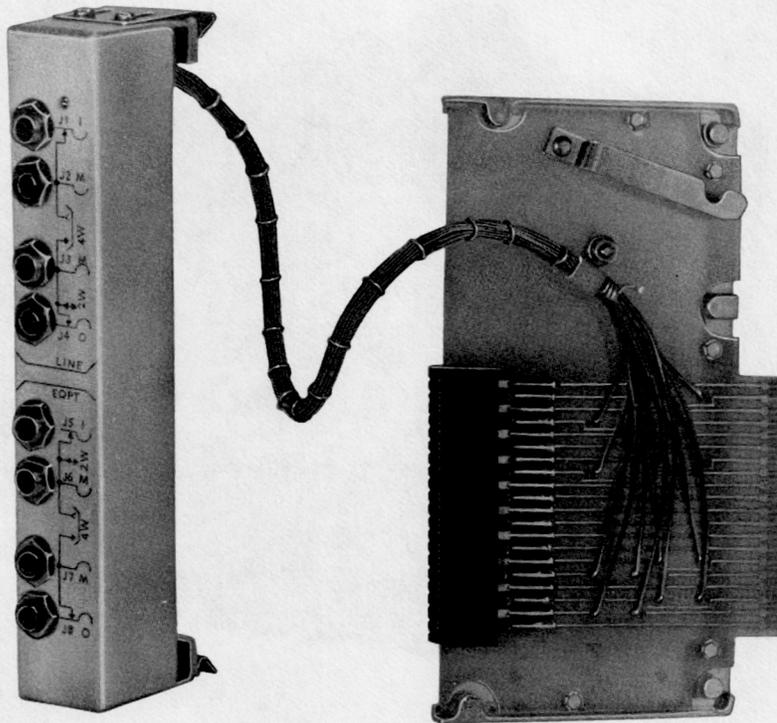

Fig. 29—Test Extender (J99380TA)
- 6.33 The test extender J99380TA (Fig. 29) or J99380TB may be required to allow access to the adjustments and test points when aligning and testing the MFT circuit packs in the CPFT installation.